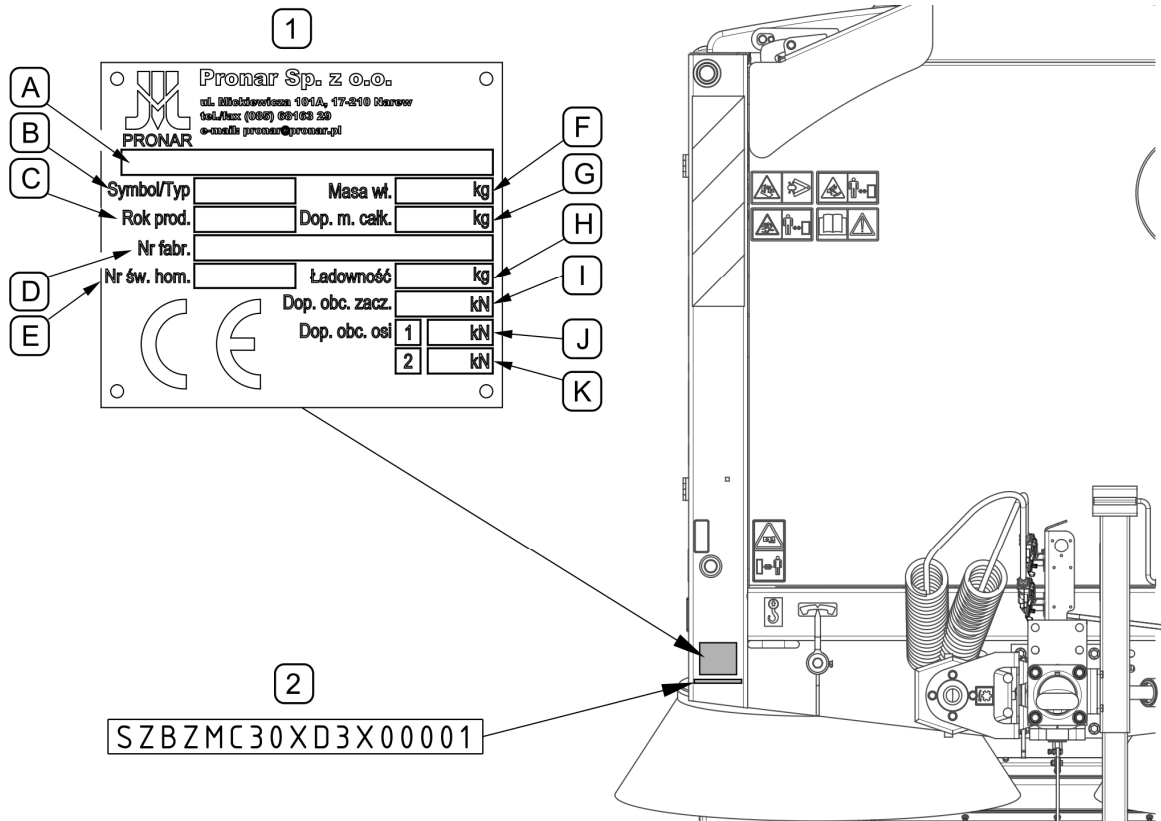

FIG. 1.1 Location of the data plate and serial number
The machine is marked with the data plate (1), and the factory number (2) located on a rectangle area below data plate (FIG. 1.1). Data plate and factory number are located on the front wall beam on the right side of the machine (FIG. 1.1). When buying the machine check that the serial numbers on the machine agree with the number written in the *WARRANTY BOOK*, in the sales documents and in the *OPERATOR'S MANUAL*. The meanings of the individual fields found on the data plate are presented in TAB. 1.1.